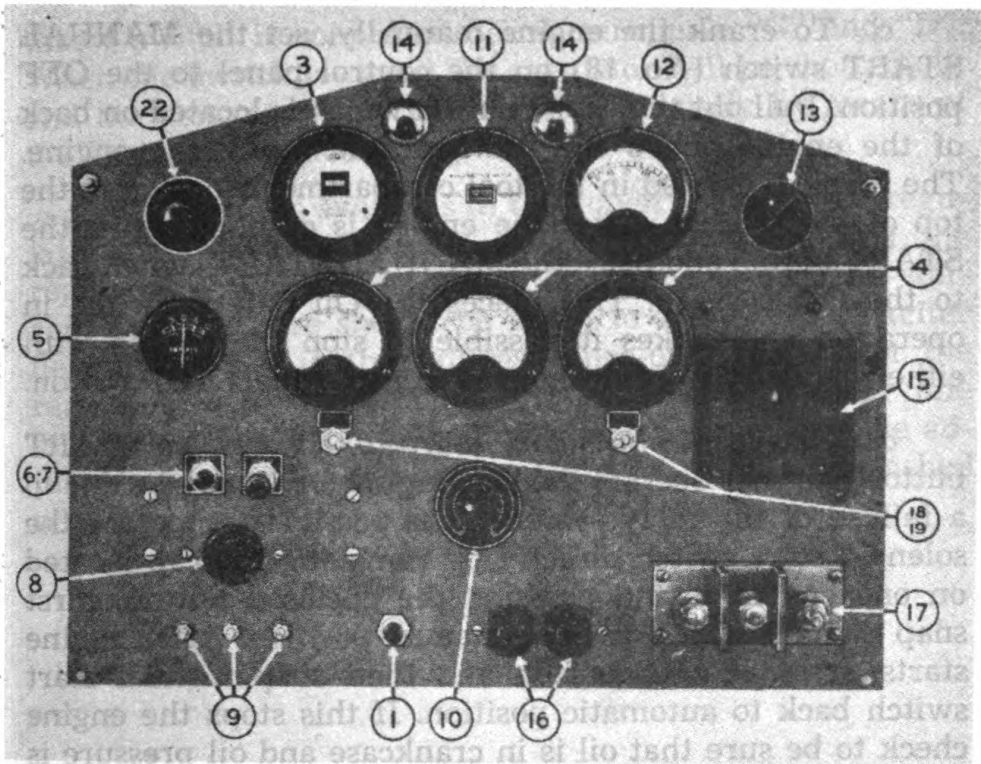

FIGURE 4—CONTROL PANEL. FRONT, POWER UNIT PE-99-E
*a.* Open the control cabinet doors (figure 4). Be sure that the Main Circuit Breaker (No. 15) is open by pulling the handle down. Set the REGULATOR switch (No. 19) to the ON position. Set the MANUAL START switch (No. 18) to the ON position. To start the unit, push the START button (No. 7) on the control panel or throw the Remote Control cable switch to the ON position. As soon as the engine starts, release the start button. Do not crank continuously for more than 30-second intervals. If the engine does not start promptly, refer to the Trouble Chart on Page 39. To stop, momentarily push the STOP button (No. 6) or throw the Remote Control switch to the OFF position.
- (1) Be sure the Main Circuit Breaker is in the OFF or down position.
- (2) Move the "A.C. VOLTS" switch (No. 13) to the 1, 2, or 3 position, to be able to read the A.C. Voltmeter (No. 12) in the upper right of the control panel.
- (3) Move the REGULATOR ON-OFF Switch (No. 19) to the ON position.
- (4) Turn the Shunt Field Rheostat knob (No. 10), in the center of the control panel, in a clockwise direction all the way.